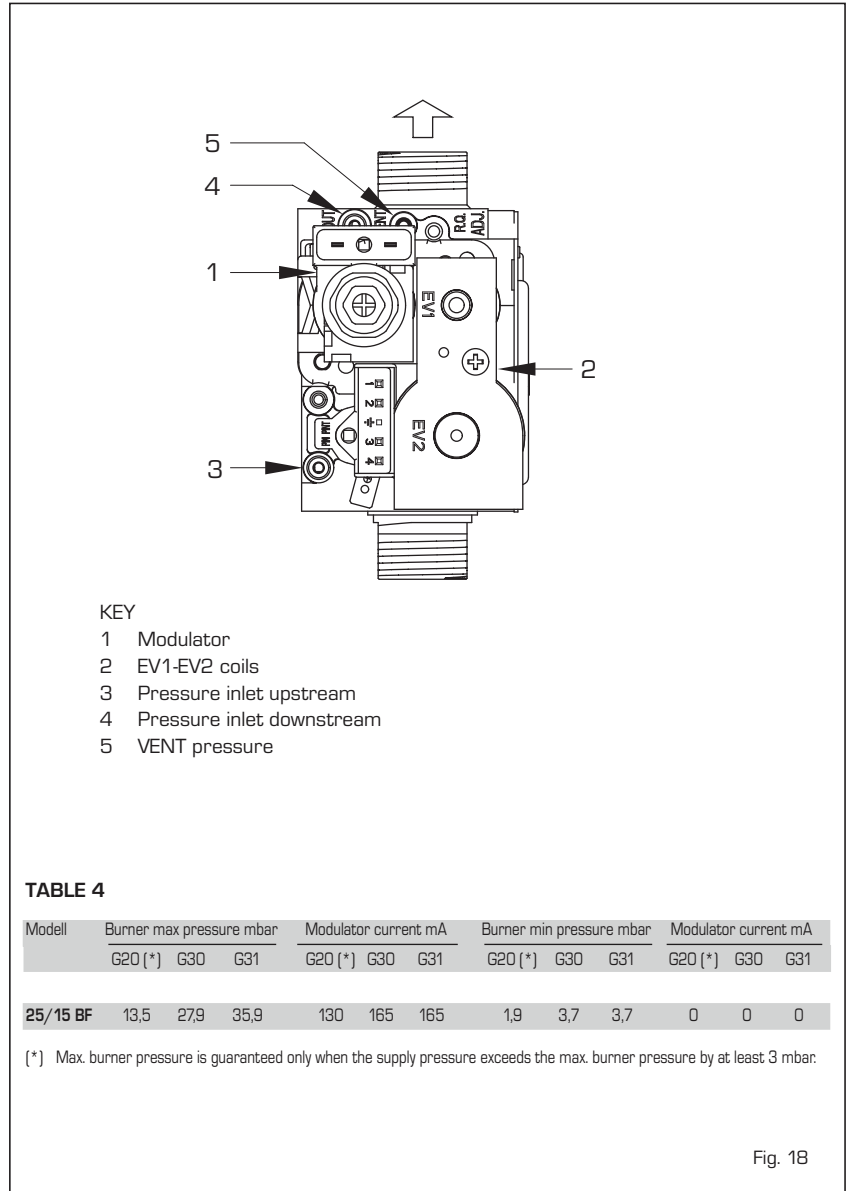

Fig. 18
The boilers are equipped standard with the SIT 845 SIGMA gas valve (fig. 18).
- Connect the column or a manometer to the intake downstream of the gas valve. **Disconnect the valve VENT pressure test point tube (5 fig. 18).**
- Remove the cap (1) from the modulator.
- Adjust maximum pressure using the nut (3) with a wrench to the maximum pressure value indicated in **Table 4.**
- Lock the nut (3) in place, turn the screw/nut (2) to the minimum pressure indicated in **Table 4.**